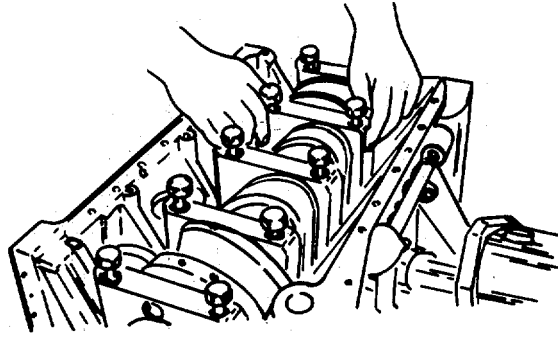

FIGURE 4-73. Install Main Bearings
- f. Install the sleeve bearing half set (3) (lower main bearings) into the caps. (FIGURE 4-73)